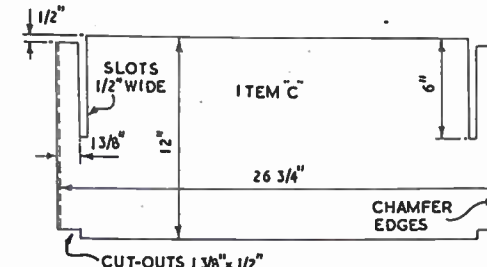

Fig. 2
The shape of the base, item (C), is given in Fig. 2. Cut this out next from 1/4 in. plywood and again make sure that the slots are true, square and accurately positioned. They must provide a neat sliding fit in conjunction with those in the uprights. The ends of the base are chamfered so that they will butt-joint neatly with the angled fronts of the magazine racks. Do this with a chisel, with the base held in the vice, and glass-paper smooth.
Filter the solution into a flask connected to a condenser (Fig. 2) and distil until most of the liquid has passed over into the conical flask. The distillate is a strangely smelling colourless solution of hypochlorous acid. If you drop in a slip of litmus paper, you will note it is soon bleached.